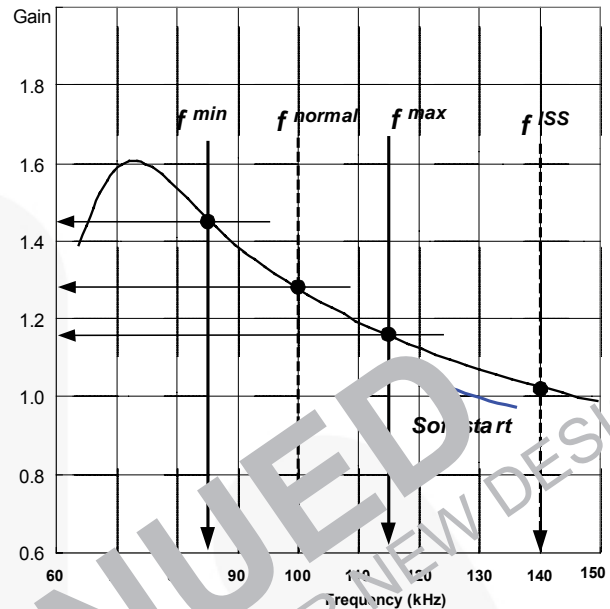
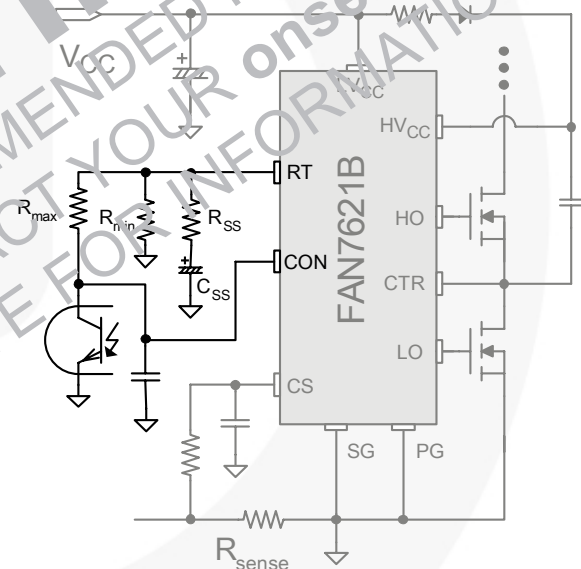
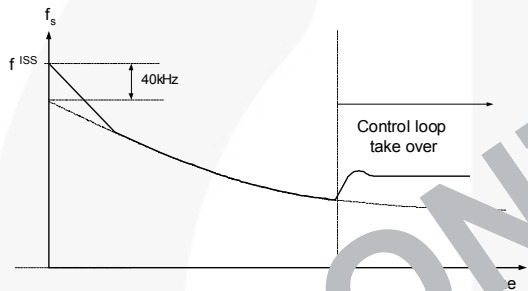

Figure 18. Resonant Converter Typical Gain Curve
Figure 19. Frequency Control Circuit
Figure 20. Frequency Sweep of Soft-Start
3. Frequency Setting: Figure 18 shows the typical voltage gain curve of a resonant converter, where the gain is inversely proportional to the switching frequency in the ZVS region. The output voltage can be regulated by modulating the switching frequency. Figure 19 shows the typical circuit configuration for R_T pin, where the opto-coupler transistor is connected to the R_T pin to modulate the switching frequency.
proportional to the switching frequency, the soft-start is implemented by sweeping down the switching frequency from an initial high frequency (f^{ISS}) until the output voltage is established. The soft-start circuit is made by connecting R-C series network on the R_T pin, as shown in Figure 19. FAN7621B also has an internal soft-start for 3ms to reduce the current overshoot during the initial cycles, which adds 40kHz to the initial frequency of the external soft-start circuit, as shown in Figure 20. The initial frequency of the soft-start is given as: